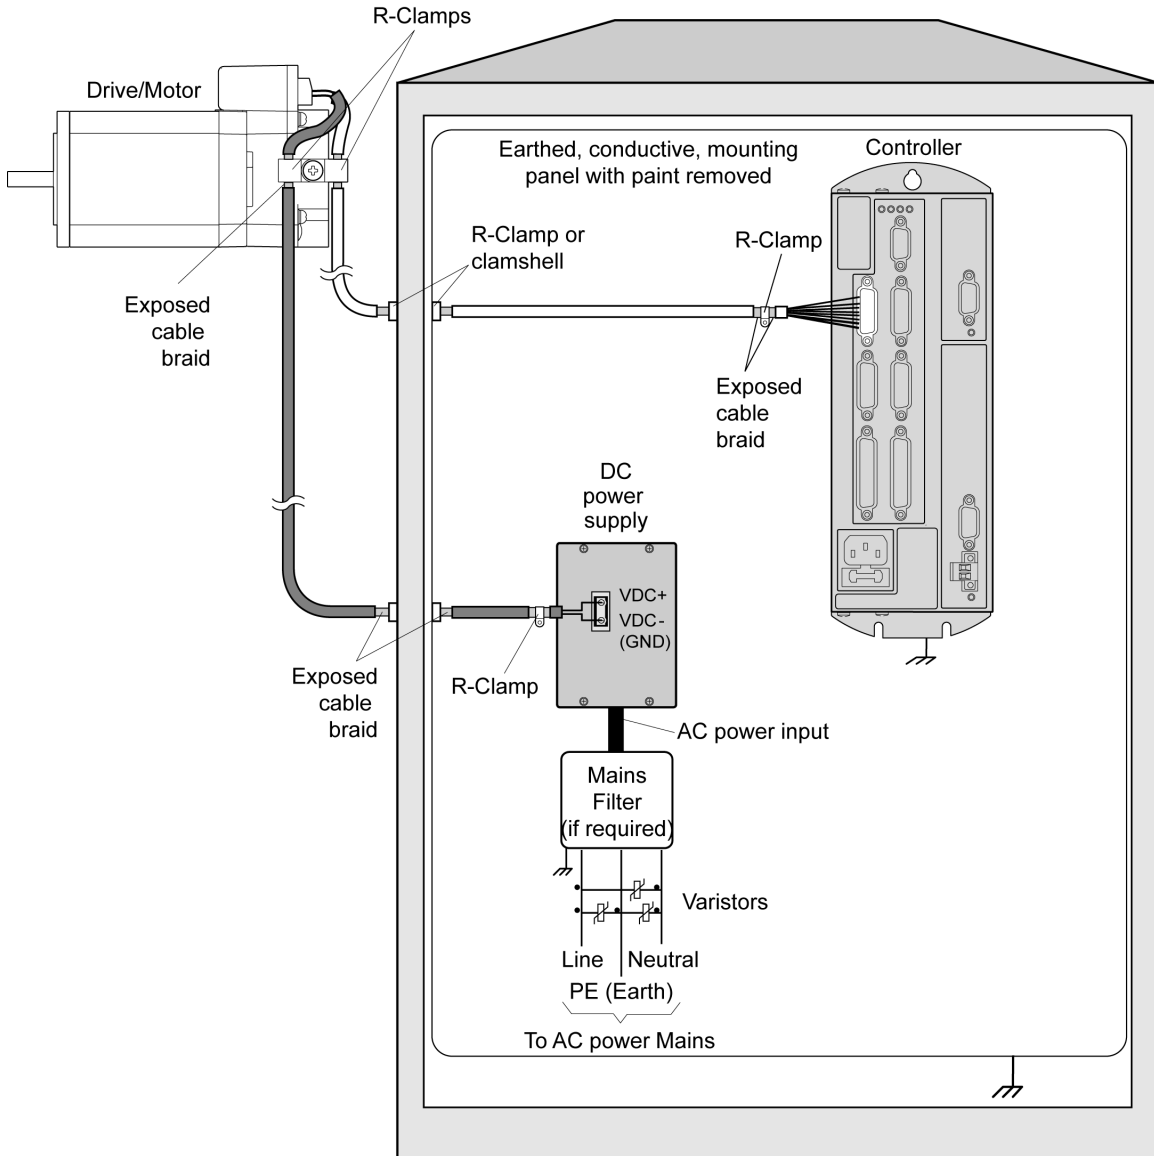

Figure 25 Typical EMC-Compliant Panel Installation
- Route cables as shown in Figure 25 Typical EMC-Compliant Panel Installation on page 53.
Figure 25 shows an installation that employs separate cables for I/O and DC power conductors (1 two-conductor cable and 1 eight-conductor cable), with cables terminated at the Drive/Motor, the earth-bonded enclosure, the controller, and the DC power supply.